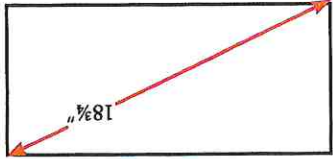

Figure 3-2: Maximum rectangular duct perimeter of 50"
The 1L Nozzle (P/N NL1L) is a one (1) flow nozzle. A single 1L nozzle is capable of protecting square or rectangular ducts with a maximum perimeter of 50" (maximum side of 16 3/4", with the diagonal being a maximum of 18 3/4"). It can also protect a round duct with a maximum diameter of 16". See Figures 3-2 & 3-3.